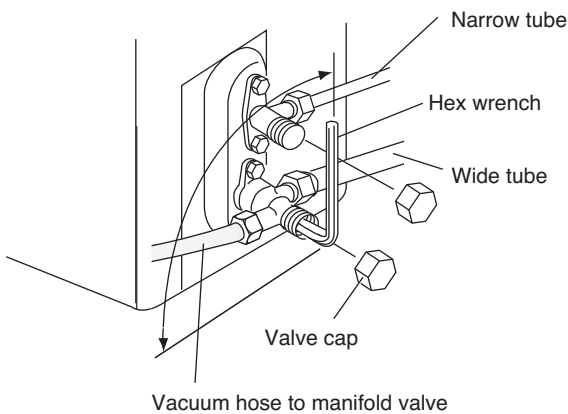
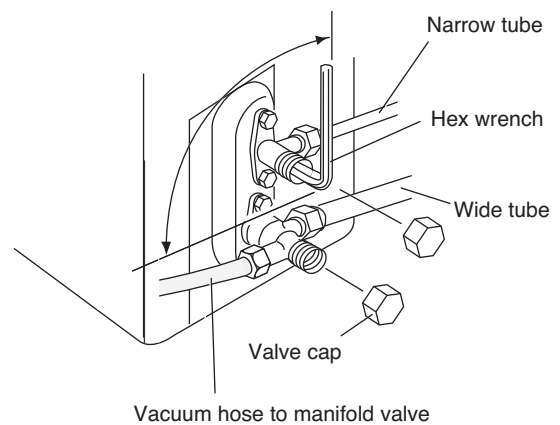

Fig. 41
Fig. 40
- (2) Using a hex wrench, turn the narrow tube service valve clockwise all the way to close the service valve (Fig. 40). (Be sure to confirm that the wide tube service valve is fully open.)
- (3) Press the ON/OFF button and start cooling operation.
- (4) When the low pressure gauge reading falls from 1 to 0.5 kg/cm², fully close the wide tube valve stem (Fig. 41). Then quickly stop the unit.
- (5) Disconnect all gauges and hoses, and replace the valve caps as they were before.